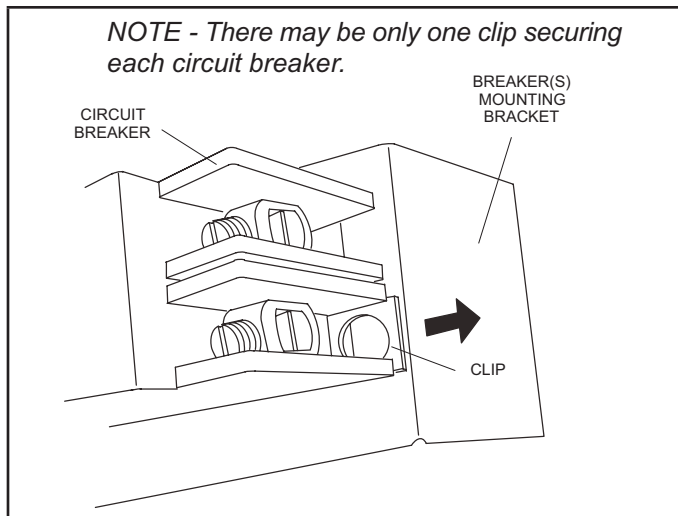

FIGURE 7. Circuit Breaker Clip
- 1 - Locate the one clip located on the right side (see arrow) of each breaker (see figure 7). The clip secures the circuit breaker to the mounting bracket. Pull the clip to release the breaker from the mounting bracket and rotate the breaker to the proper position.
- 3 - Set unit so that it is sloped toward the upflow drain pan end of the unit and level from front to back of unit (see figure 7).